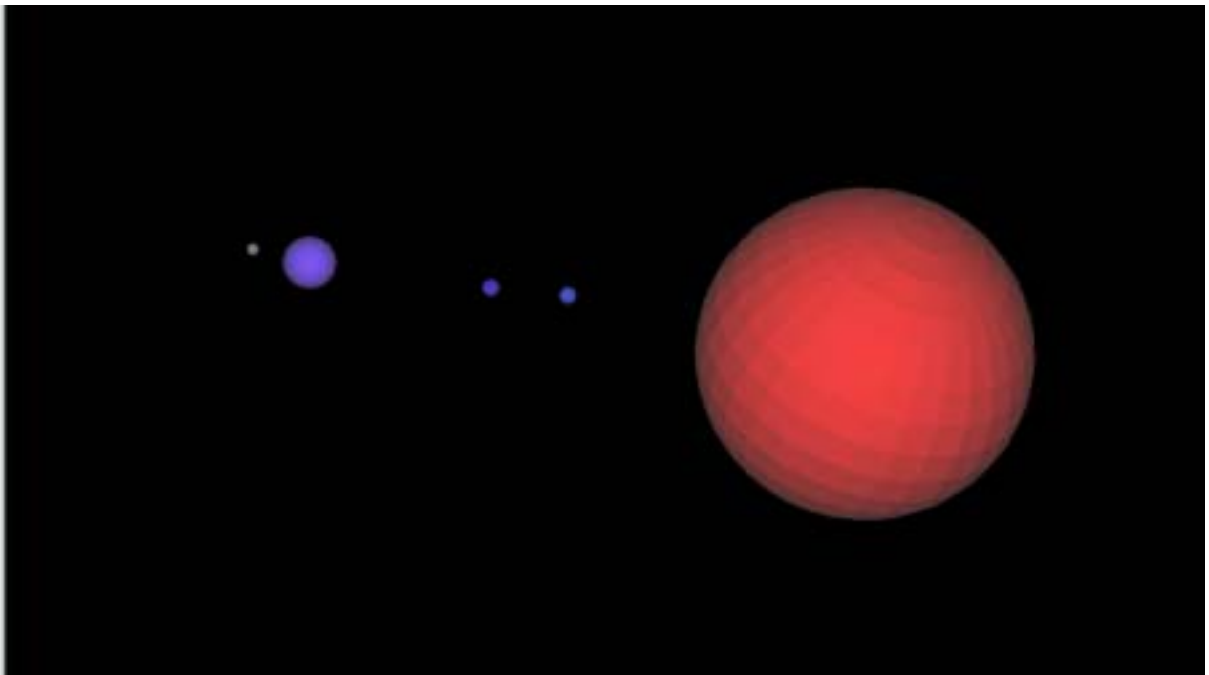

Figure A.2 Representation of the solar system *with* Length Unit, AU
Figure A.2 shows the result of using the astronomical unit (AU) in the X3D scene. Users can represent the real sizes of planets or satellites using the astronomical units. In the figure, the scene is represented by combining the sun and all the planets by Inline nodes after each of them has been generated with its respective length unit. In this case, it is easy for browser users because they do not need to calculate scaled values for the coordinates according to the meter unit. The astronomical unit is defined as in Figure A.3.